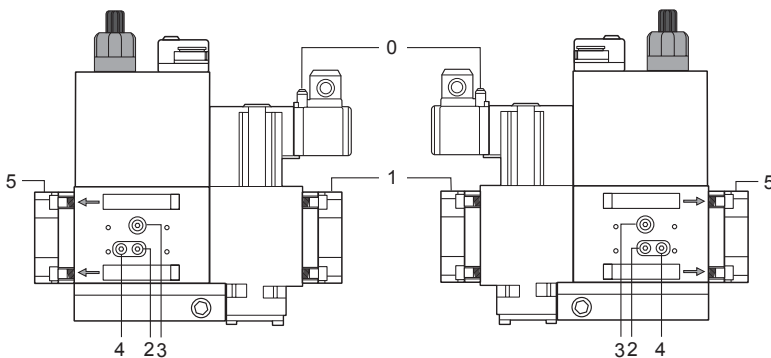
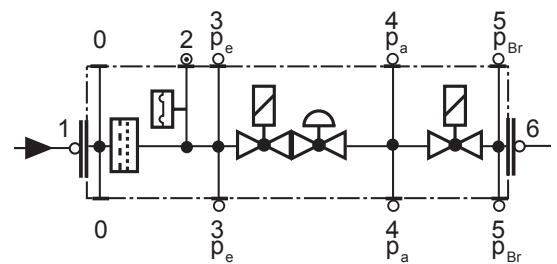

Fig. 27
Fig. 28
- Change the filter if the pressure difference between pressure connection 1 and 2 (Fig. 27-Fig. 28) $\Delta p > 10$ mbar.
- Change the filter if the pressure difference between pressure connection 1 and 2 (Fig. 27-Fig. 28) is twice as high compared to the last check.